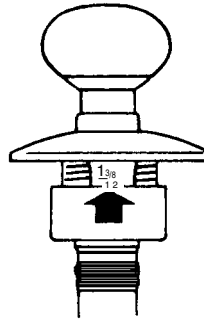

Figure 19.46 Electrified key-in-knob lock installation, Step 4.
4. Adjust for the door thickness by moving the outside rose either in or out until the indicator on the lock shows the proper thickness for the door. Make sure the rose clicks into place (Fig. 19.46). The lock will fit on all doors 1 $\frac{1}{2}$ to 2 inches thick. (If you need a lock for a thicker door, special order it from the company.)